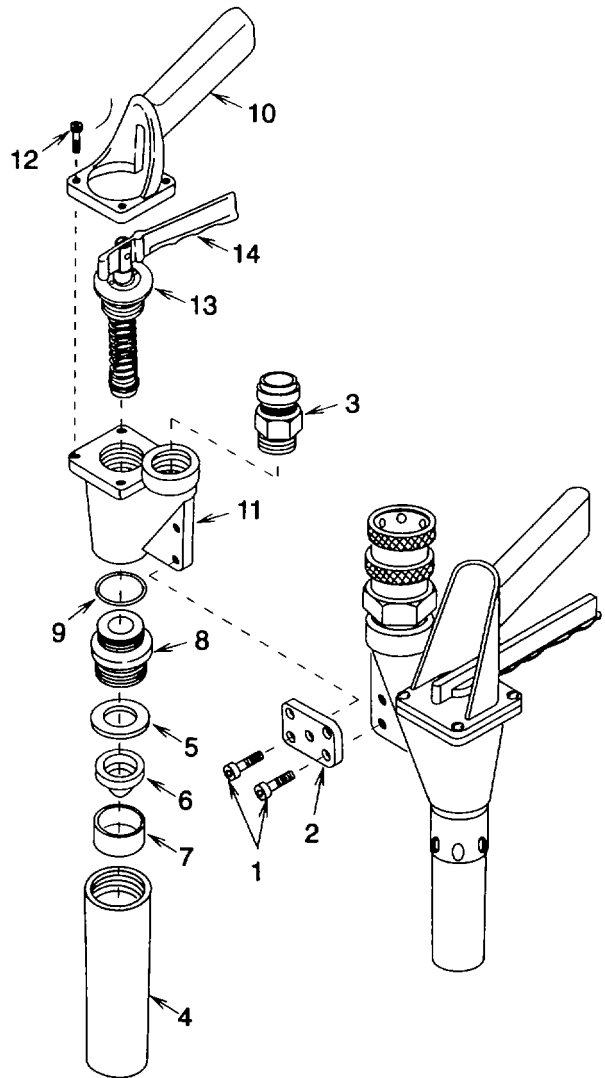
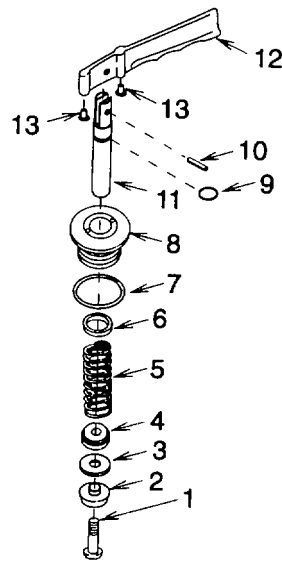

Figure 5-1. Dry Chemical Nozzle Assembly
Figure 5-2. Valve Assembly
- (1) Remove four screws (1) (fig. 5-1) and tie bar (2).
- (2) Remove nipple (3).
- (3) Using strap wrench, remove nozzle (4), gasket (5), nozzle tip (6), and sleeve (7). Discard gasket.
- (4) Using spanner wrench, remove forward valve seat (8) and preformed packing (9). Discard preformed packing.
- (5) Scribe an alignment line between handle (10) and valve body (11).
- (6) Remove four screws (12) and valve handle (10).
- (7) Un-screw rear seal bushing (13) from valve body (11). Manipulate lever (14) as necessary.
- (8) Carefully remove screw (1) (fig. 5-2), valve seal washer (2), gasket (3), spring retainer (4), spring (5), rod wiper (6), preformed packing (7), and rear seal bushing (8). Discard gasket, rod wiper, and preformed packing.
- (9) Remove preformed packing (9) and spring pin(10). Disassemble valve stem (11), lever (12), and two drive buttons (1). Discard preformed packing and spring pin.
- (1) Install drive buttons (13) (fig. 5-2) into lever (12).
- (2) Secure valve stem (11) to lever (12) using new spring pin (10).
- (3) Install new preformed packing (9) onto valve stem (11).
- (4) Install new preformed packing (7) onto rear seal bushing (8).
- (5) Slide rear seal bushing (8), new rod wiper (6), spring (5), spring retainer (4), new gasket (3), and valve seal washer (5) onto valve stem (11). Secure using screw (1) and tighten to 24 in. lb (3 Nm).
- (6) Install rear seal bushing (13) (fig. 5-1) into valve body (11) and tighten.
- (7) Install valve handle (10) and align with valve body (11) matching scribe line made during disassembly. Install four screws (12).
- (8) Install new preformed packing (9) onto forward valve seat (8).
- (9) Install forward valve seat (8) onto valve body (11) and tighten.
- (10) Install sleeve (7), nozzle tip (6), and new gasket (5) into nozzle (4).
- (11) Install nozzle (4) onto forward valve seat (8) and tighten.
- (12) Wrap antisieze tape around nipple (3) threads and install onto valve body (11). Tighten securely.
- (13) Install tie bar (2) and four screws (1).
- (14) Install nozzles per paragraph 4-14.